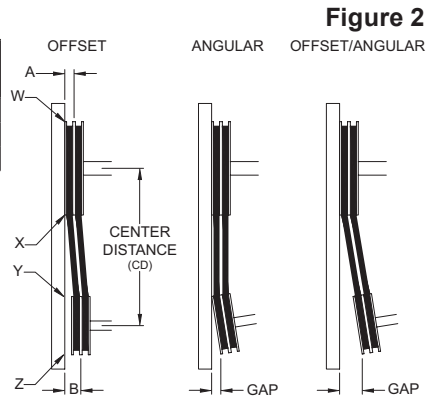
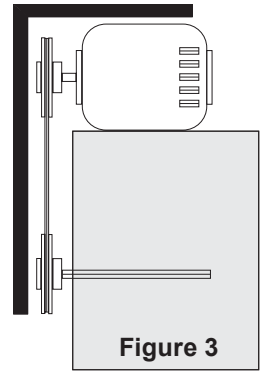

Figure 2
Figure 3
4. Ensure pulleys are properly aligned. Refer to *Figure 2*.
Figure 2 indicates where to measure the allowable gap for the drive alignment tolerance. All contact points (indicated by WXYZ) are to have a gap less than the tolerance shown in the table. When the pulleys are not the same width, the allowable gap must be adjusted by half of the difference in width. *Figure 3* illustrates using a carpenter's square to adjust the position of the motor pulley until the belt is parallel to the longer leg of the square.